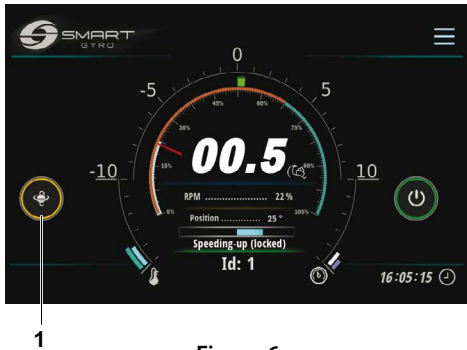

Figure 6
6. During flywheel acceleration and as long as the speed remains below 55% of the top speed, precession is not allowed and the circle around the precession icon (Figure 6, (1)) is yellow.